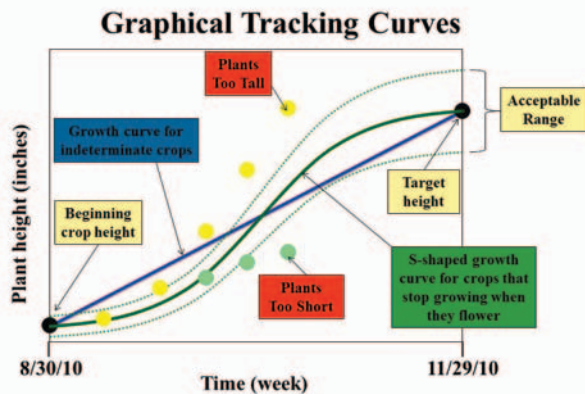

Figure 3. A linear (blue line) and S-shaped graphical tracking curve (green line) that can be used by growers to determine if a crop is too tall or too short.
1. Begin by using lined or graph paper, or a computer program, to create a graph for each crop variety or cultivar (Figure 3). Label the vertical axis "Plant Height" and the horizontal axis "Time." Now, write down the date of transplant or pinch – whichever occurs later – where the horizontal and vertical axis cross (left side of graph). Determine the number of weeks until your crop is marketable and record that date on the horizontal axis (right side of the graph).
4. Draw a straight line or an S-shaped curve from the "Beginning Crop Height" to the "Target Height." The shape of the curve will depend on the crop you are growing. For determinate crops such as poinsettia and chrysanthemum, you will use an S-shape growth curve (green line, Figure 3). An S-shaped growth curve is used because growth is initially slow as apical dominance
is broken from pinching, then rate of stem elongation increases to a maximum and finally decreases as flowers develop and then stops as the flowers mature. For indeterminate crops such as petunia or verbena that continue to develop flowers as stems grow, you will use a linear growth curve (blue line, Figure 3). Additionally, the shape of the growth curve can depend on the crop and even the cultivar.
6. You may not need to take any action to slow down or accelerate the growth of your crop. However, if your crop is several inches above the growth curve, immediate action will need to be made to reduce further increases in stem elongation ("Plants Too Tall," Figure 3). This can be accomplished in many ways, including the use of chemical PGRs, providing a cool day and a warm night (negative DIF), or prevent-
7. It is not uncommon to find that the plant height of your crop is below the growth curve ("Plants Too Short," Figure 3). If plant height continues to be below the curve, this is an indication that stem elongation of your crop needs to increase more rapidly so your crop does not finish below the acceptable range. For this